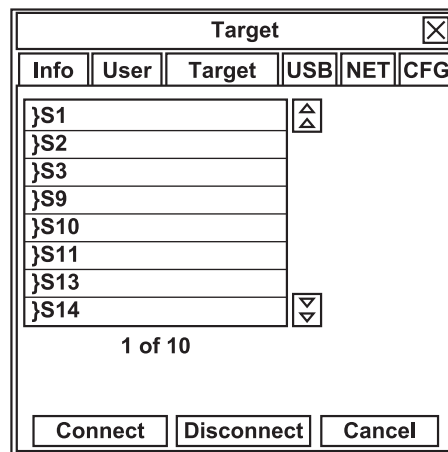

Figure 5-1. Target Menu.
2. Click on the Target tab. See Figure 5-1.